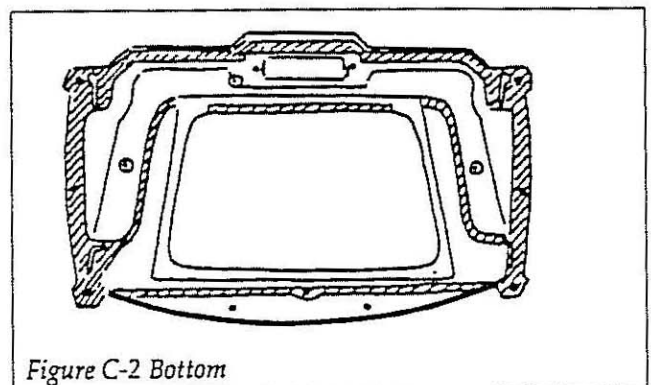

Figure C-2 Bottom
6. Cement all the channels, flanges and mating surfaces indicated in figure C-2. Keep the cement off the thermostat cable.